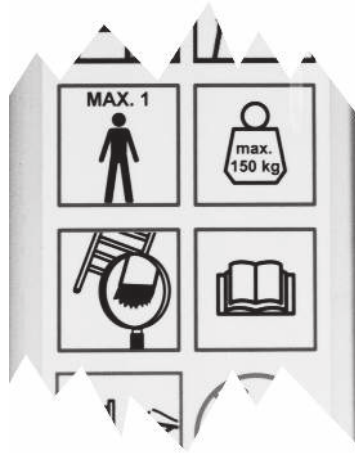

Fig. 7
- (ii) Fig. 7 shows part of the safety label attached to the leg of the work platform.